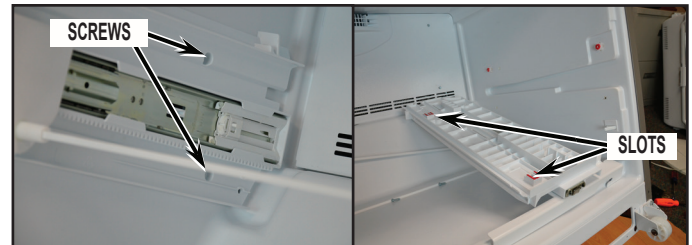

FIGURE 4
6. Remove screw(s) and pull rail forward off of slots to remove complete rail. See *Figure 4*.